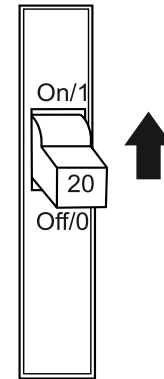

Figure 56. GFCI Circuit Breaker
2. Place the **GFCI circuit breaker** (Figure 56) in the **ON** position.